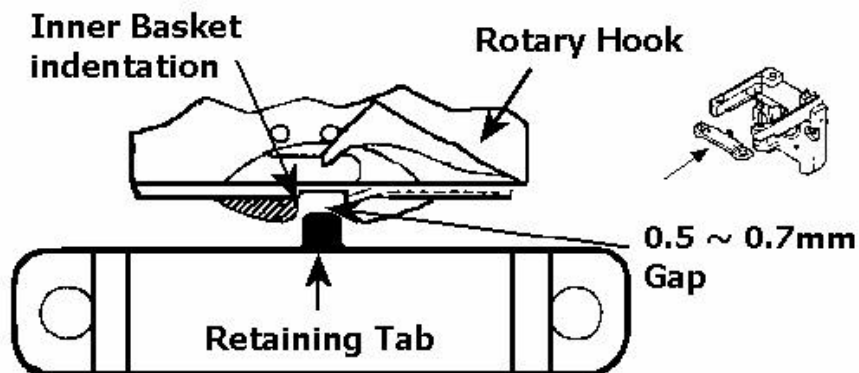

Fig. 8
- Rotate the inner basket section of the hook around and position it to receive the retaining tab of the rotary hook support arm. See **fig. 8**.